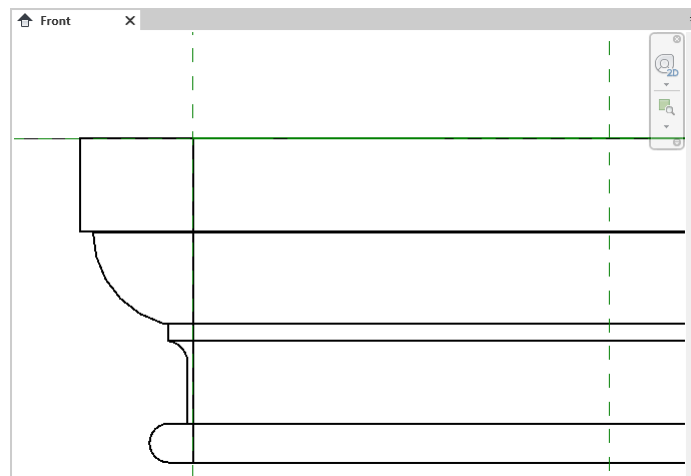

Figure 61—Add the remaining sweeps
9. Repeat this entire process twice more to create two more sweeps as shown in Table 4 and Figure 61.